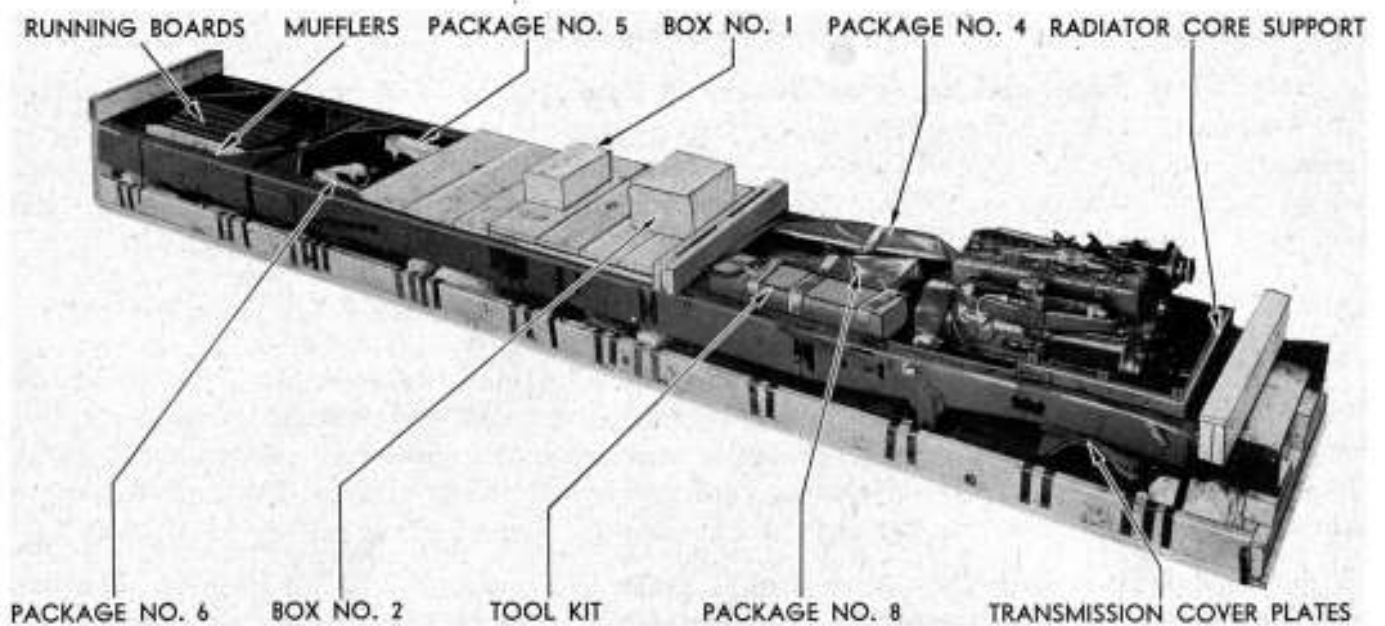

Figure 4—Frame Case After Removal of Upper Frame
(3) **Upper Frame.** Cut bands holding the frame to case and bend over corners and edges. Remove bolts and nuts from hold-down straps between the two frame assemblies. Be sure all bands and fastenings are loose, lift upper frame off the lower frame, and place in a location that is convenient for reassembly (fig. 4).